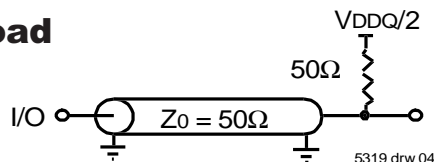

Figure 1. AC Test Load
Output Load	Figure 1
3. These parameters are guaranteed with the AC load (Figure 1) by device characterization. They are not production tested.